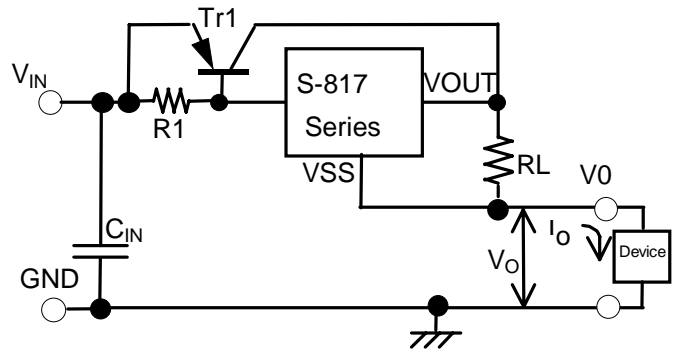

Figure 11 Constant Current Circuit
The S-817 Series can be configured as a constant current circuit. See Figure 11. Constant amperage I_O is calculated using the following equation
Please note that it is impossible to set constant amperage I_O in case of circuit (1) of Figure 11 to the value exceeding the drive ability of the S-817.
However, circuit (2) of Figure 11 is an example to set constant amperage to the value exceeding the drive ability of the S-817. Circuit (2) incorporates a current boosting circuit. The maximum input voltage of the constant current circuit is the value obtained by adding 10 V to voltage V_O of the device. It is not recommended to attach a capacitor between the S-817 power source V_{IN} and V_{SS} pins or between output V_{OUT} and V_{SS} pins because rush current flows at powering on. An example of input voltage between V_{IN} and V_O in circuit (2) vs. I_O current characteristics